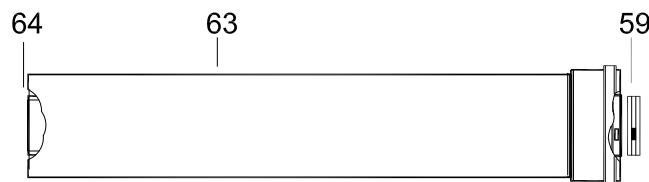

Fig 11
FLUE EXTENSION BOX CONTAINING (Fig. 11):
Working above the boiler pull the flue exhaust duct towards the boiler in order to engage tube (fig. 11 item 61) into its header.
Extension kits are available to order for flue extension of up to a total overall length of 8 metres (fig.11).